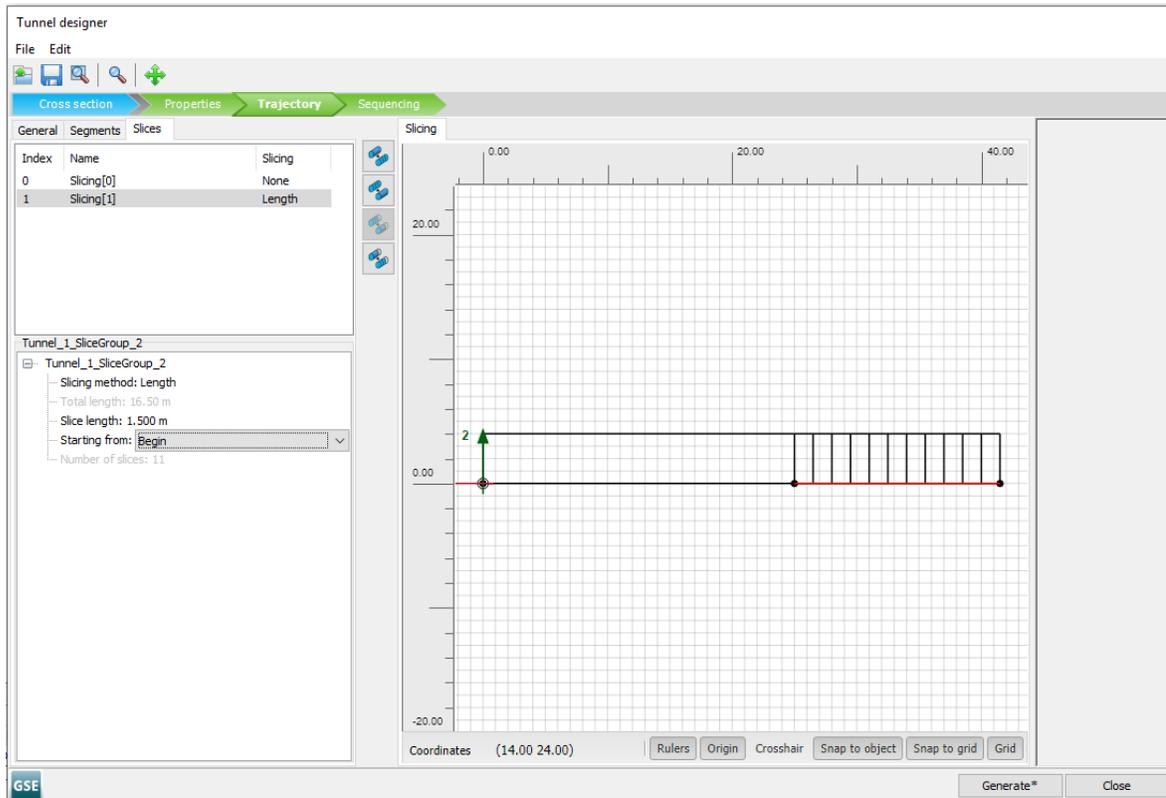

Figure 67: Trajectory tabsheet in the **Tunnel designer**
6. Click on the second created segment. In the properties box, as the **Slicing method** select *Length* and set the **Slice length** as 1.5m (Figure 67 (on page 93)).